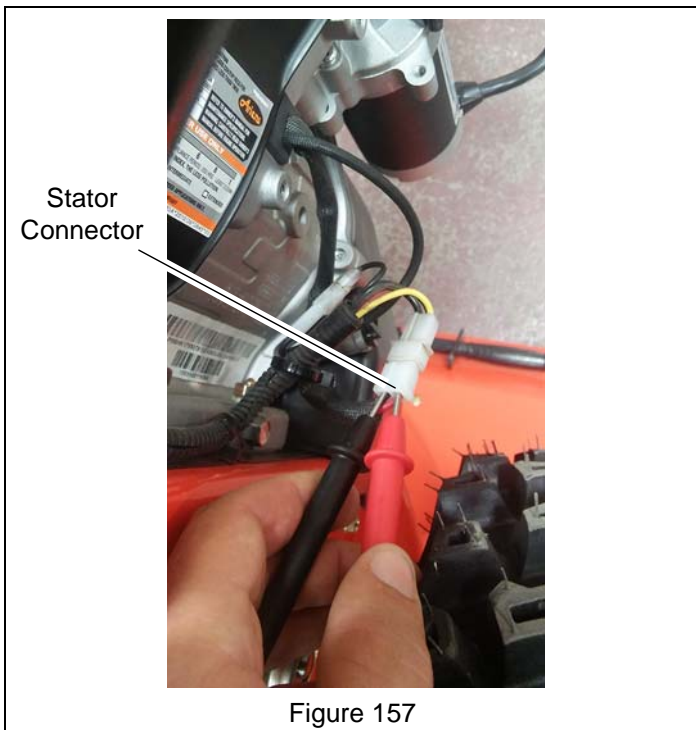

Figure 157
5. Back probe the engine stator output connector. See Figure 157.
If stator output measures over 14 volts, replace stator. If output is within range, advance to step 3. See Figure 157.